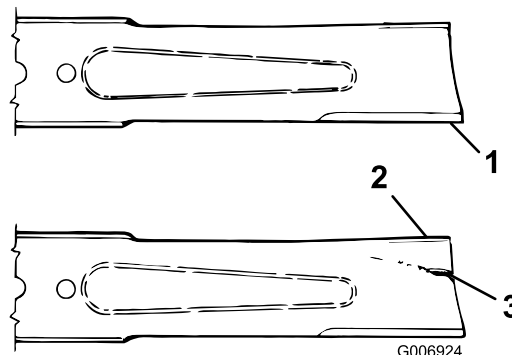

Figure 28
2. Inspect the cutting edges (Figure 28). If the edges are not sharp or have nicks, remove the blades and sharpen them; refer to Sharpening the Blades.
3. Inspect the blades, especially the curved area (Figure 28). If you notice any damage, wear, or a slot forming in this area (Figure 28), immediately install a new blade.